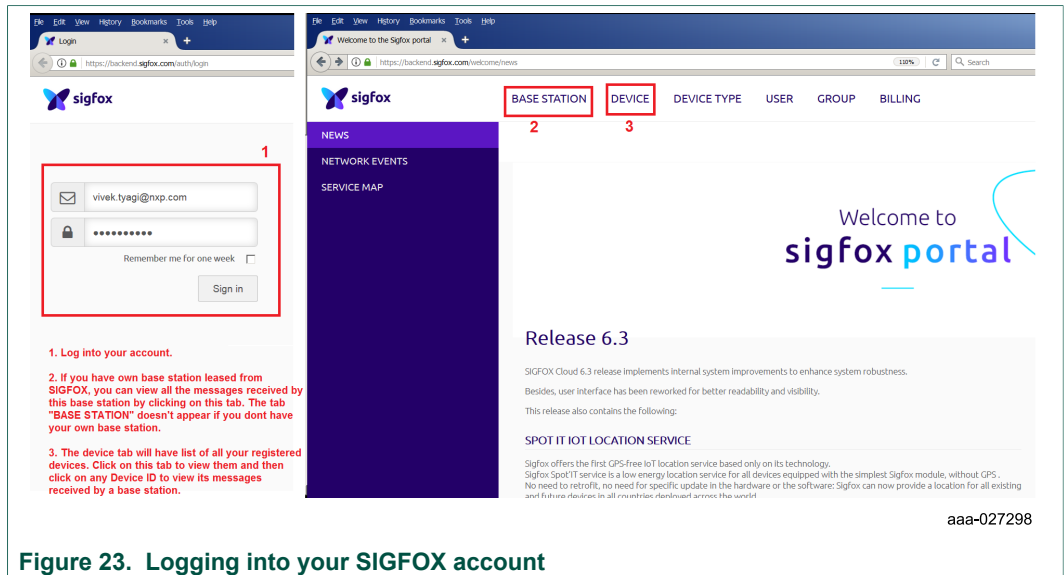

Figure 23. Logging into your SIGFOX account
7. Go to backend.SIGFOX.com/auth/login to log into your account, as shown in Figure 23.